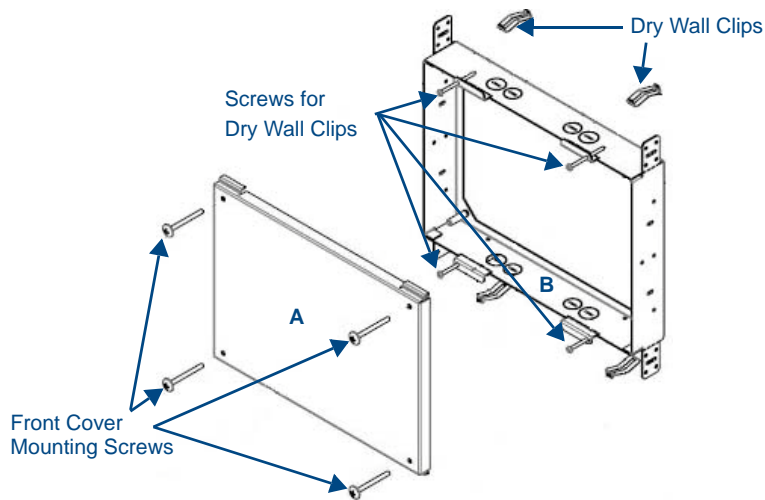

FIG. 15 CB-MVP-WDS9 Rough-In Box - with front cover
The optional metal rough-in box (FG038-13) is 11.97 inches (30.40cm) wide at its widest dimension (wider than the bezel of the Wall Docking Station), and is only intended for pre construction installations (FIG. 15). The Metal Rough-In Box is used in conjunction with the Wall Docking Station's plastic back box.
1. Remove the rough-in box cover (A in FIG. 15) before installation of the Rough-In Box (B).